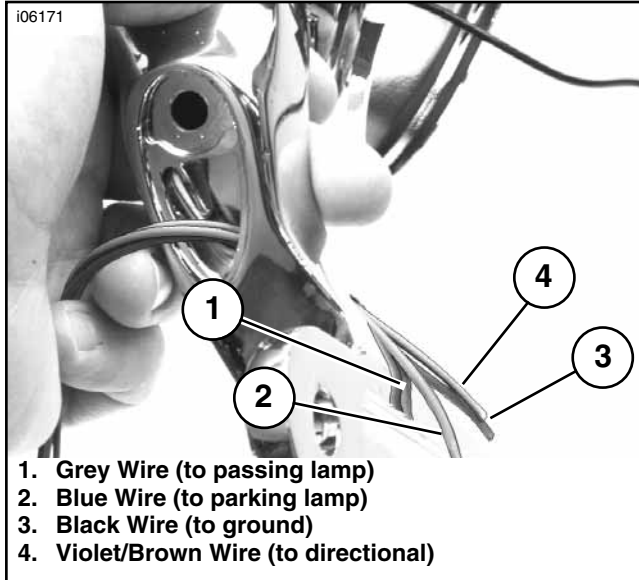

Figure 5. Directional Wiring Routing Shown
- See Figure 5. Install directional assembly (3) from kit to stand off (2) by routing wires through directional stand off and passage in passing lamp bracket (1) along side grey wire from step 3. See Figure 3. Secure directional assembly using lock washer (7) and hex socket head screw. (8). Tighten to 96-120 **in.lbs** (10.8-13.6 Nm). Repeat for other side.